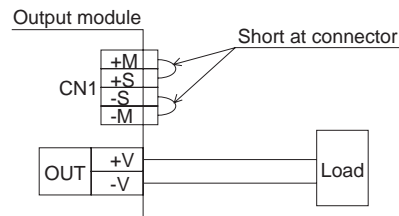

Fig.2.3 When not using remote sensing function
■Wiring method without using remote sensing is shown in Fig.2.3.